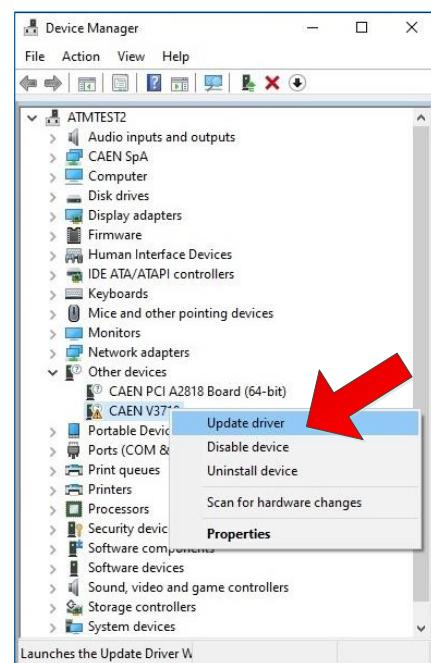

Fig. 11.2: USB Driver Installation: step 2
2. Right-click on the “CAEN V3718” item and select the *Update Driver* option in the slide menu (Fig. 11.2).